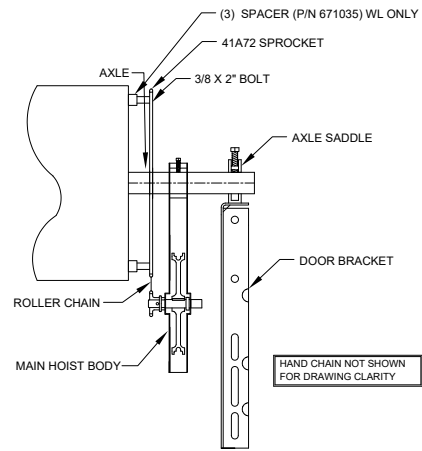

Figure 5.
5.3.2 Connect the drive chain around both sprockets, using the masterlink provided. Do not secure the chain hoist assembly to the axle at this time. See Figure 5.